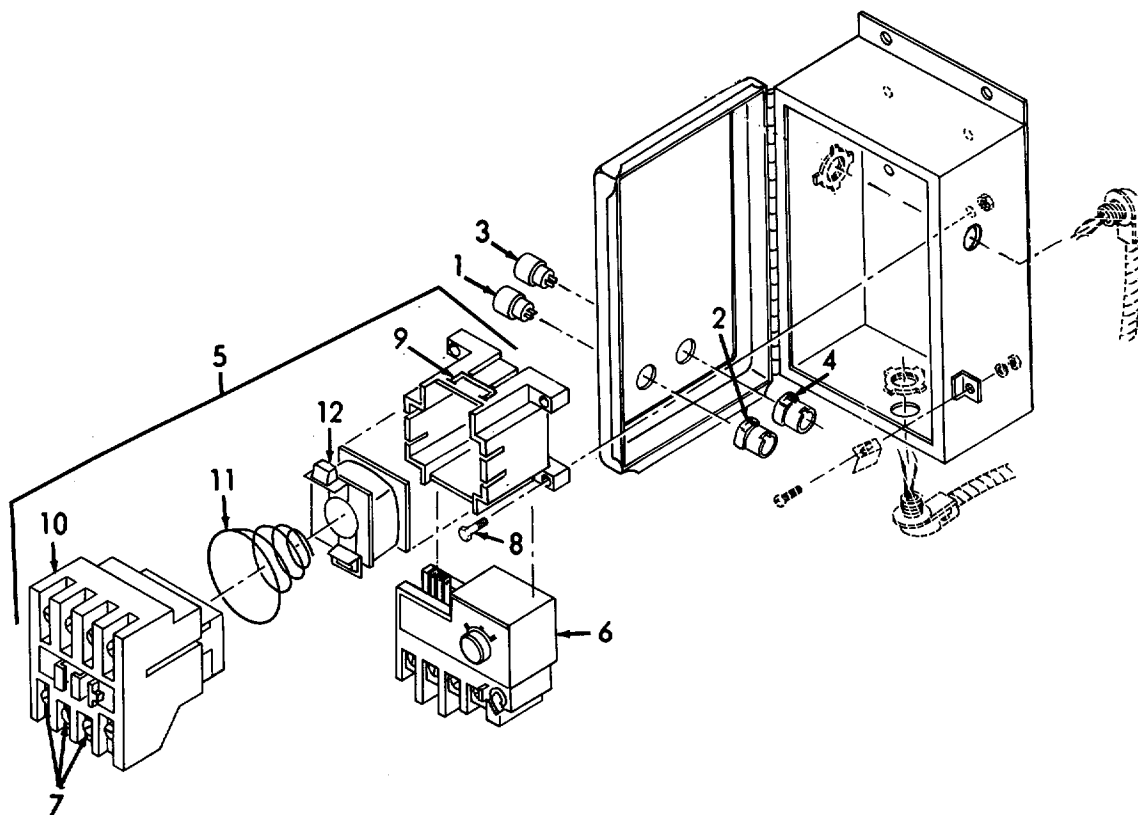

Figure 3-4. Starter Box, Disassembly.
b. Disassembly. (Refer to Figure 3-4).